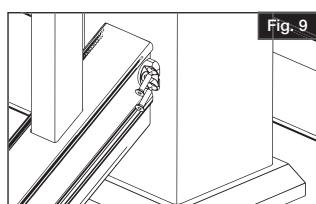

Fig. 9
- Using 5/32" drill bit, pre-drill top rail bracket screw holes into post. Drill through bracket hole, vinyl post jacket, and wood or steel post and loosely install first #10 x 2 $\frac{1}{2}$ " screw (Fig. 9).
Using provided #10 x 1" flat head screws, attach the bottom rail brackets to both the top and bottom stair posts (2 screws per bracket) (Fig. 9).